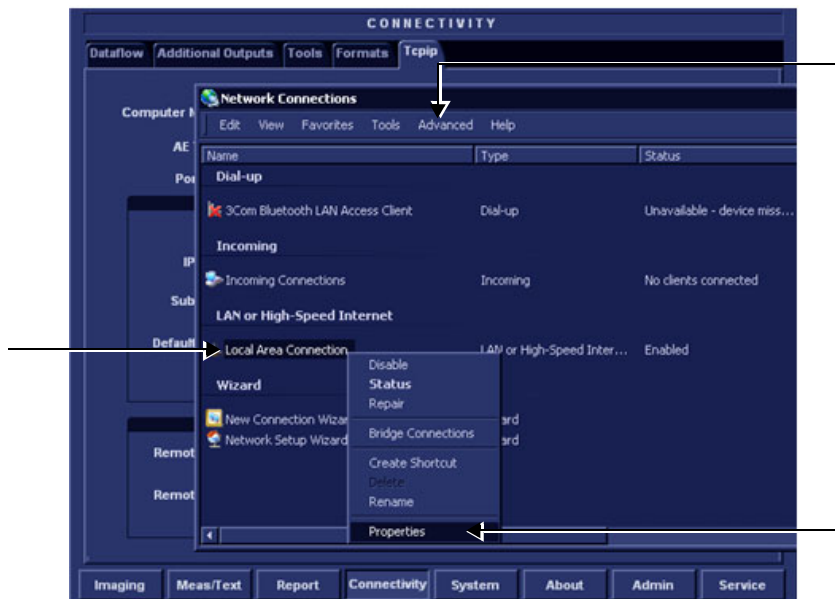

Figure 3-105 Connectivity Dialog Box - TCPIP Advanced Tab
- 5.) Select the **Local Area Connection**, as shown in Figure 3-105.